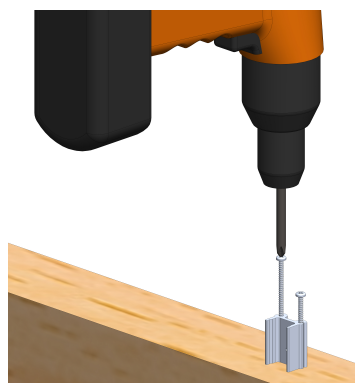

Fig 13
- Pre-install RCB screws in RCB as per Figure 13 (1/8" past flush to avoid RCB spin during install).